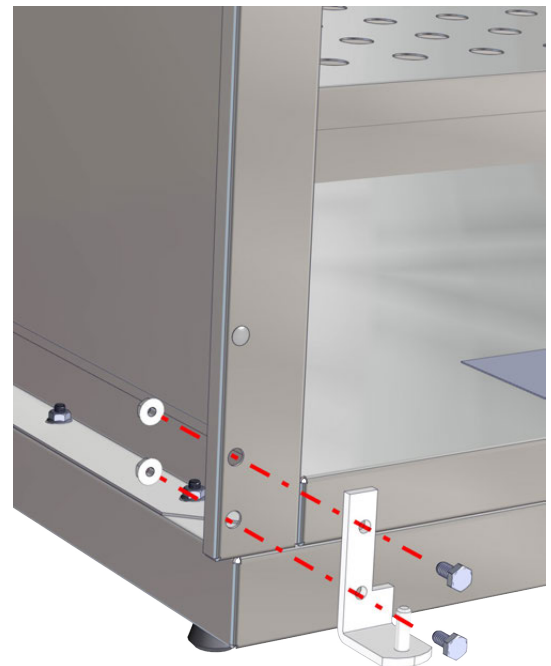

Fig. 66: Install Bottom Hinge in New Position
8. Look at the socket located on both the top and bottom of the door (circled in red in Fig. 66). The pins of the door hinges will insert into these. Fit the bottom socket of the door onto the bottom hinge pin. Support the door on its bottom hinge while you prepare to affix the door to the top hinge.